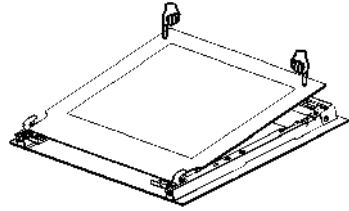

Figure 13
2. To press the glass into snap hook, as shown in figure 13.